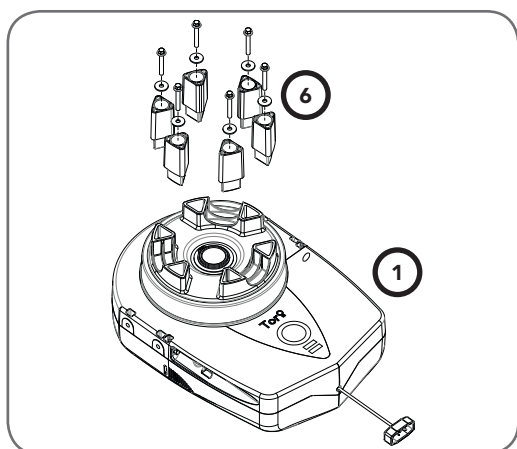

Fig 6.3
Attach and secure all six (6) forks (6) to the drive unit (1) with screws supplied (Fig. 6.3). All the six (6) forks must be used and properly engaged into the drum of the door for the opener to work effectively.